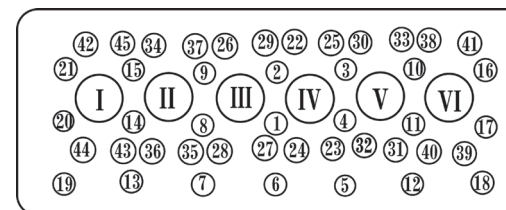

Fig 2
3.3.3.3 Tighten (30N·m) all main bolts and auxiliary bolts caaording to the order shown in fig.2.